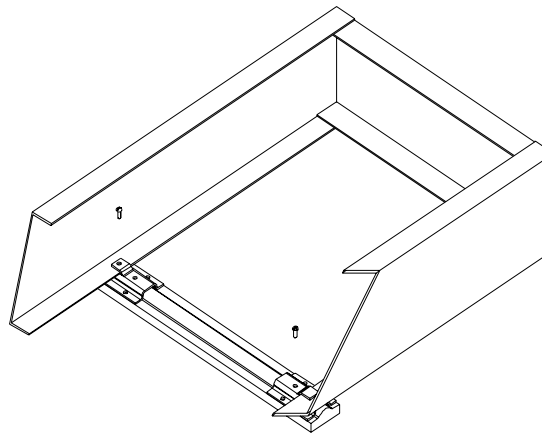

Figure 9
5. Place static base clips on rail as shown in Figure 9.